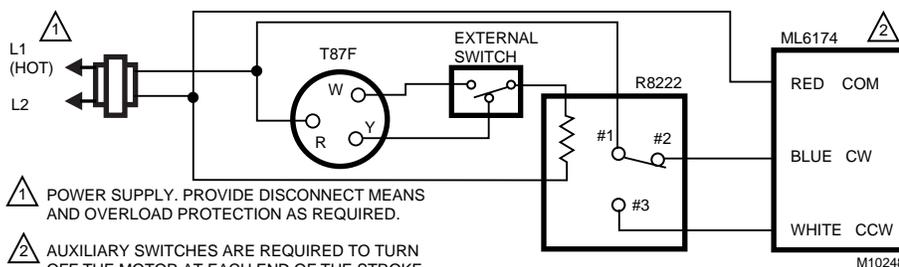

Fig. 10. ML6174 used with T87F in heating or cooling application.
All wiring must comply with local electrical codes, ordinances and regulations. Voltage and frequency of the transformer used with the ML6174 must correspond with the characteristics of the power supply and of the actuator. Screw terminals are provided for easy hookup. See Fig. 10, 11 and 13-17 for typical wiring hookups.
4. Run the connecting wire through the conduit connector, strip the wire ends (if necessary) and connect to the CW, COM and CCW terminals using Fig. 10, 11 or the control manufacturer instructions.